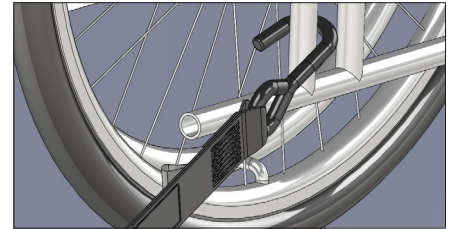

Figure 7
2. Extend the webbing and attach the J-hook, (Fig. 10C), around the wheelchair's securement points with the open gate facing outboard, (Fig. 7). Some wheelchairs will indicate the securement points, (Fig. 8). **Note:** It is not necessary to press the yellow button. Webbing can be extended from the reel without pressing the yellow button if the lock label, (Fig. 10D), is NOT visible. The yellow button must be pressed if extending webbing with the label in view, (Fig. 10A).